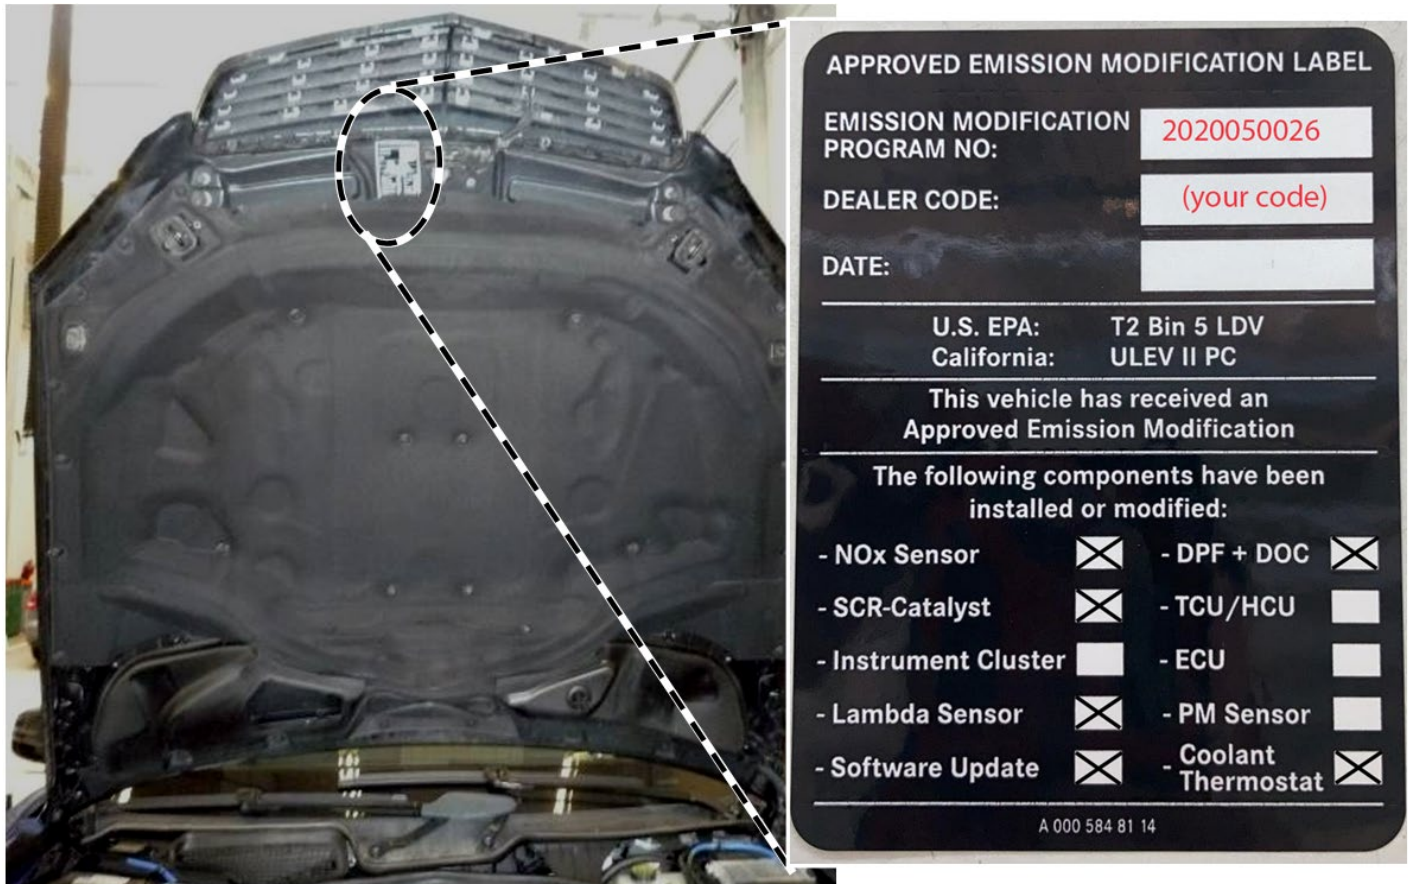

Figure 4
12. Clean the bonding area surface of the hood and apply the adhesive label (**Figure 4**).